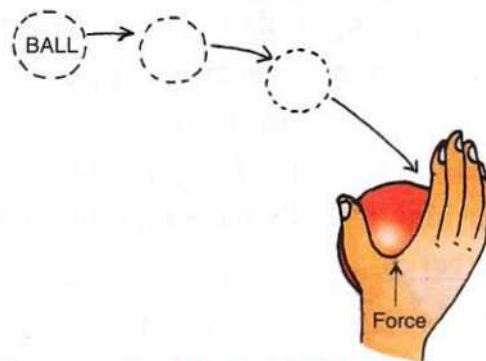

Fig. 3.7 Force applied by the fielder while catching a ball, stops the moving ball
2. A force can stop a moving body : When a force is applied on a moving body in a direction opposite to the direction of motion of the body, it can be made to stop. *For example*, a moving bicycle, bus or train is stopped by applying the brakes. The brakes act against the direction of motion of bicycle, bus or train. Thus, the brakes provide the stopping force. A moving cricket ball is stopped by the fielder when he catches it, by applying a force with his hands in a direction opposite to the motion of ball. (Fig. 3.7)